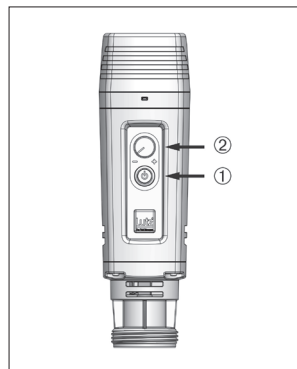

Fig. 9: On/off switch and speed controller
- ▶ To start the motor, press the on/off switch (→ Fig. 9, item ①).
- ▶ The flow rate can be increased (clockwise) or decreased (counterclockwise) by turning the speed controller (→ Fig. 9, item ②).